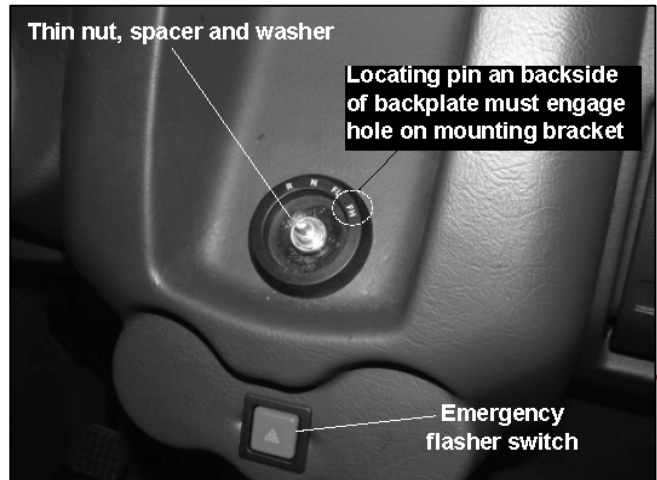

Figure 7-11
6. Pull direction knob straight out to remove it. Remove thin nut, spacer and directional backplate (Figure 7-11). There is a star washer located between the directional backplate and flasher switch.
4. Install direction switch with star washer through bracket and hole in dashboard and secure with backplate, spacer and thin nut (Figure 7-11). Backplate has a locating pin that must engage the mounting bracket to prevent switch assembly from rotating. Install direction knob onto switch.